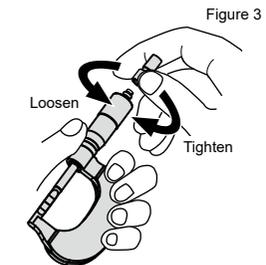

Figure 3
- If the reference point difference is around ±0.01 mm or higher (Figure 3)